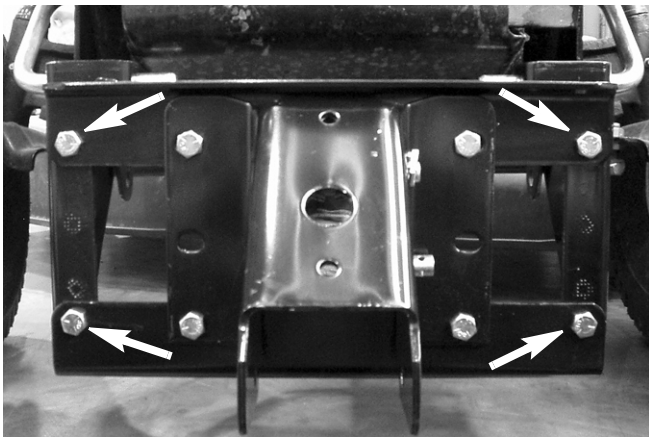

FIGURE 3
8. Using a 9/16" box/open end wrench and a 9/16" socket and ratchet, loosen the 4 bolts and nuts shown in Figure 3.